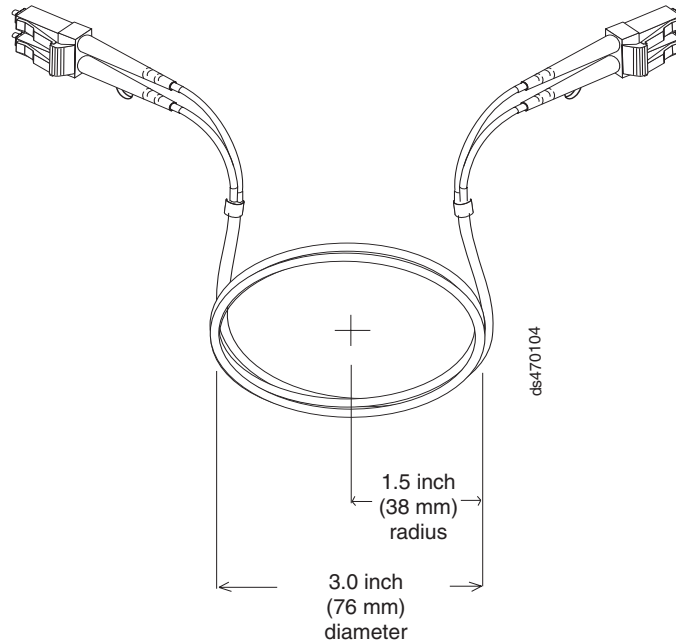

Figure 19. Recommended bending and looping specifications for fibre-optic cables
**Note:** IBM Fibre Channel (FC) cable options have been tested and approved for the IBM DS storage products. For optimal performance and compatibility, always use IBM FC cable options when installing the IBM DS products.
- When storing excess or unused fibre-optic cables, do not bend the cables to a diameter of less than 76 mm (3 in.), or a radius less than 38 mm (1.5 in.) or wrap them around themselves. See Figure 19 on page 37.